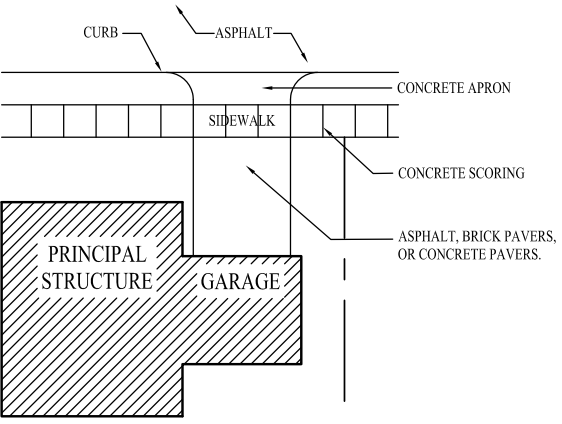

Figure 31
- » Front-load driveways may be asphalt, brick pavers, or concrete pavers. Aprons may be concrete. See Figure 31.